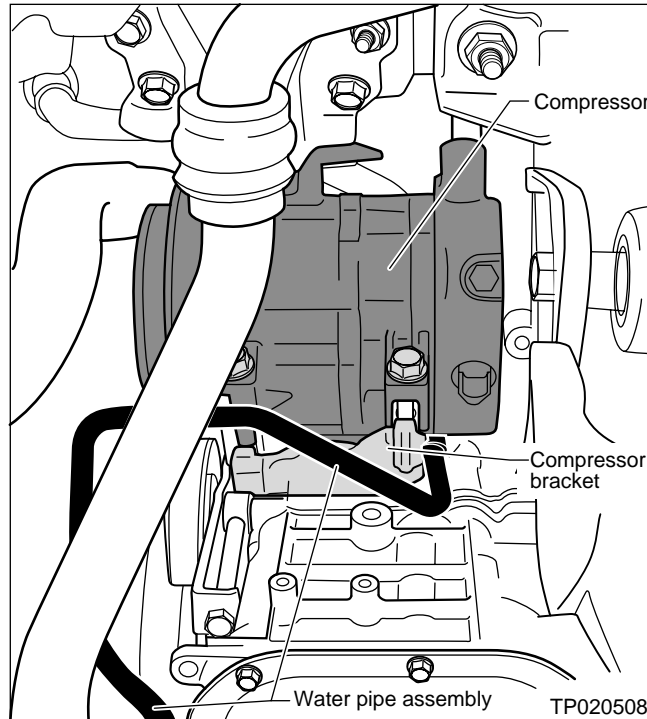

Figure 3
11. Install the new compressor from the Air Conditioner Kit. See Figure 3 for a view of the compressor installed.